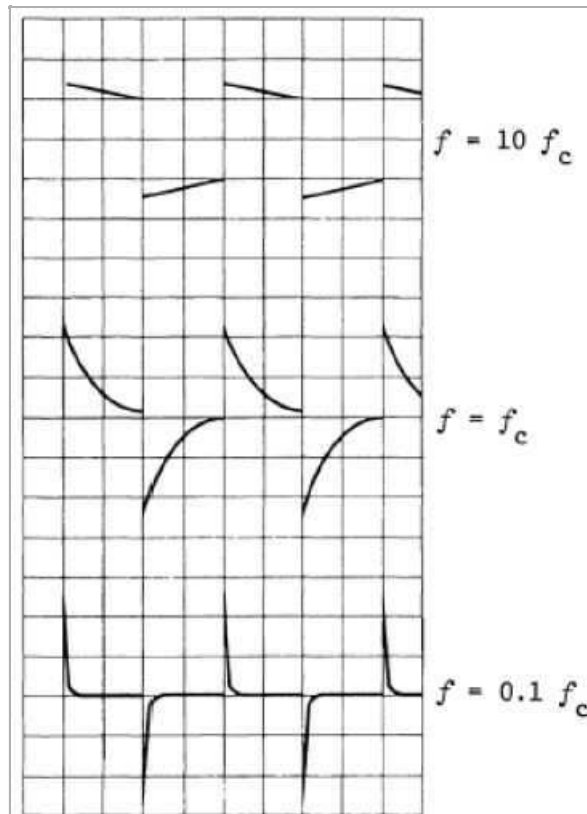
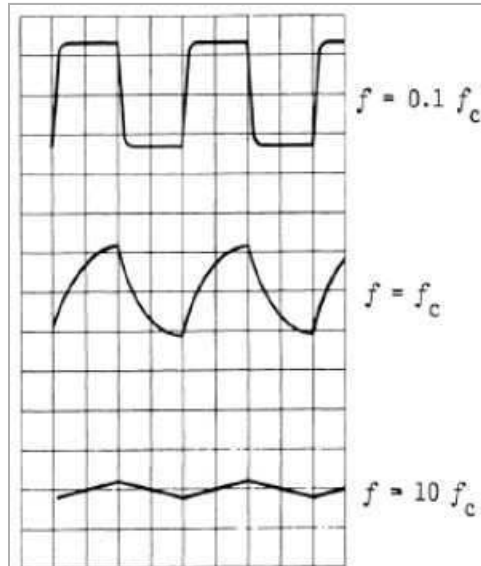

Fig. 11: Square-wave behavior of the high-pass filter at various frequencies (low input voltages are differentiated).
Fig. 12: Square-wave behavior of the low-pass filter at various frequencies (high input voltages are integrated).
- To investigate the square-wave behavior of the differentiating network (high-pass) and the integrating network (low-pass), square-wave frequencies of 0.1, 1 and 10 times the cut-off frequency  $f_c$  are fed to the input. Set the signal in the function generator to square-wave. Set the frequency to low (high) for the low-pass (high-pass) filter. Increase (decrease for high-pass filter) the signal frequency and observe the gradual change of the filter signal. The low-pass filter integrates high input frequencies (Fig. 12), while the high-pass filter differentiates low input frequencies (Fig. 11).
Low-frequency input voltages are therefore differentiated (Fig. 11).
Hence, high input voltages are integrated (Fig. 12).